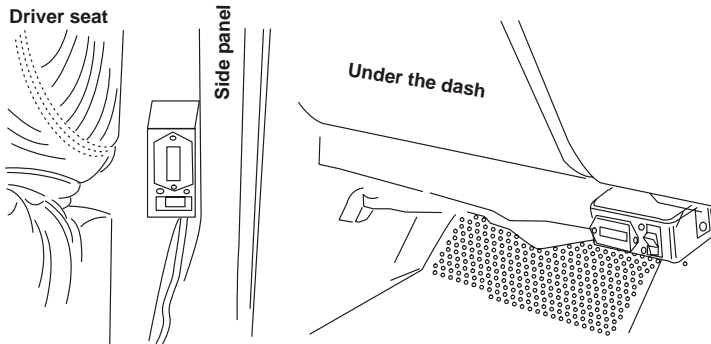

Figure 4.1
- Locate a suitable location for the control box where it will be accessible but will not be subject to damage. Recommended locations include the side panel just behind the door opening or under the dash (Figure 4.1).